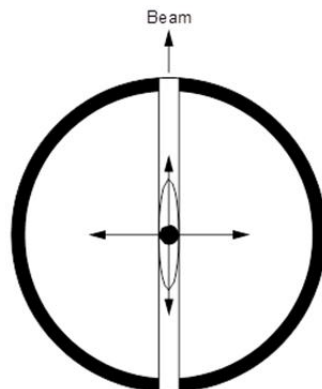

Figure 3-43 Alignment ellipse observed in the beam
7. Adjust the x-alignment drive screw (horizontal adjust). Adjust the drive screw to center the beam over the center hole in the screen (Figure 3-43).